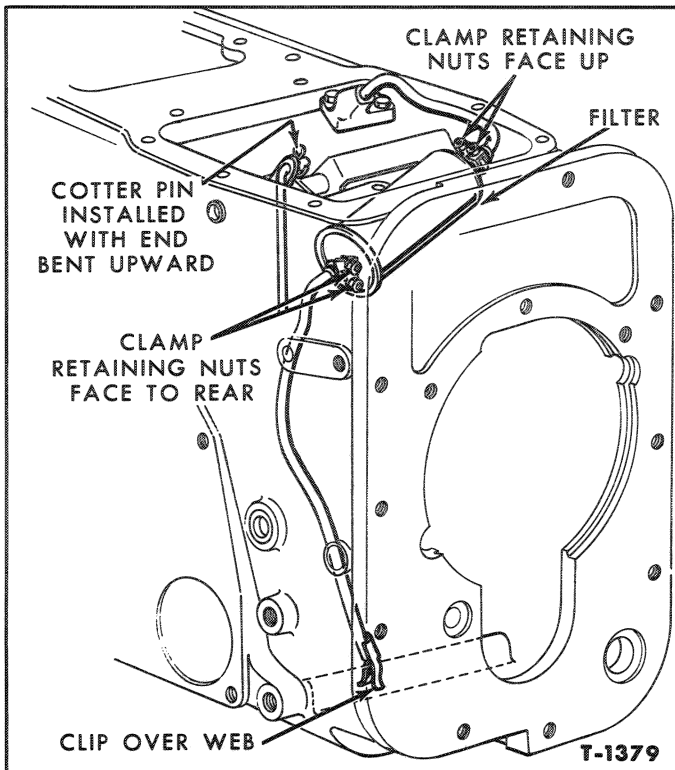

Figure 134—Oil Filter Installation
2. Bend the ends of the cotter pin that attaches the feathering pedal upper actuating rod to the rocker, upward as far as possible, as shown in Figure 134, to prevent interference with the filter can.
3. Assemble the inlet tube and flange to the inlet end of the filter can marked "IN" with the clamp as shown in Figure 134. Make certain that the nuts of the retaining clamp are facing up and are loose enough to rotate the tube on the can.